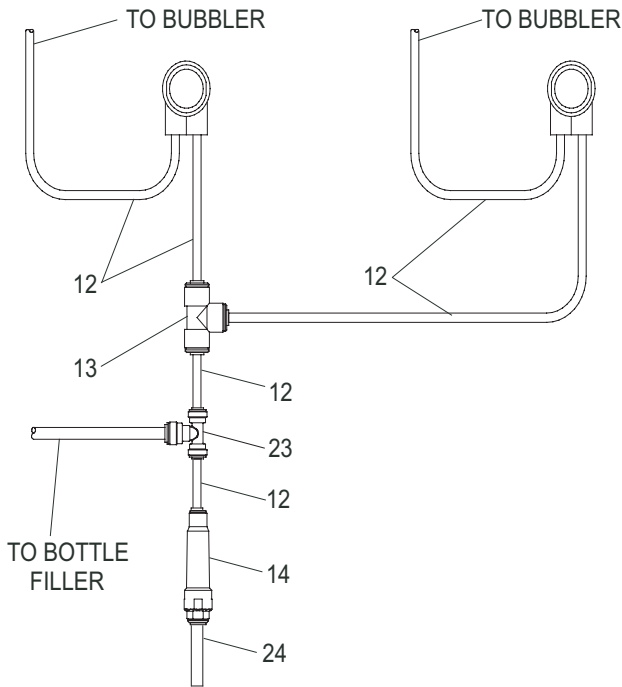

Figure 2 - EZLSSN-EDFPBMV117K Tube Routing
- 3a. **(For EZLSSN-EDFPBMV117K)** Install 1/4" tee, copper tubing and strainer per (Fig. 2).
7. **Installing water Dispenser** Place the unit into the stainless panel and frame. Align the holes in the water dispenser with the nuts in the panel. Attach the dispenser to the panel using four (4) supplied 1/4 x 20 screws.